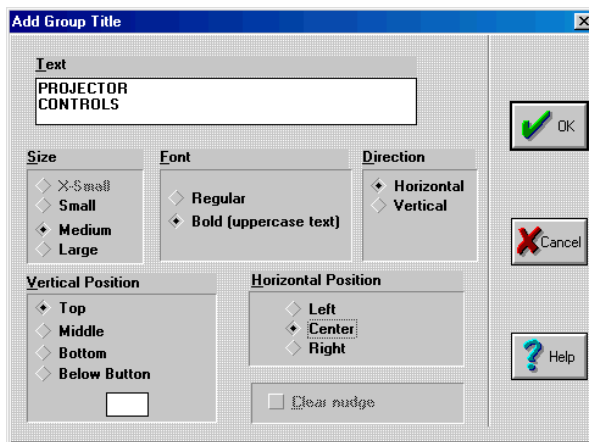

FIG. 12 Add Group Title dialog
4. Then, click Group > Group Title to open the Add Group Title dialog (FIG. 12).